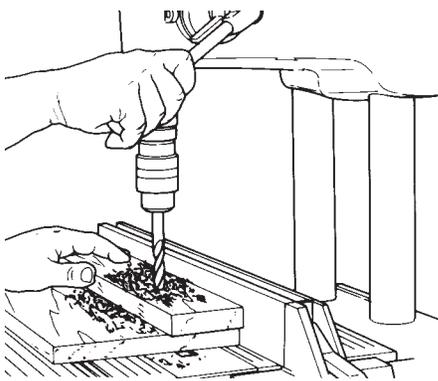

Figure D-25
- Adjust the speed, turn on the Mark 7, and feed the drill bit into the stock slowly. See Figure D-25. When drilling deep holes, retract the drill bit now and then to clear chips from the hole. When you feel the depth control stop the quill, retract the drill bit. Turn off the machine. Let it come to a stop, then remove the stock.